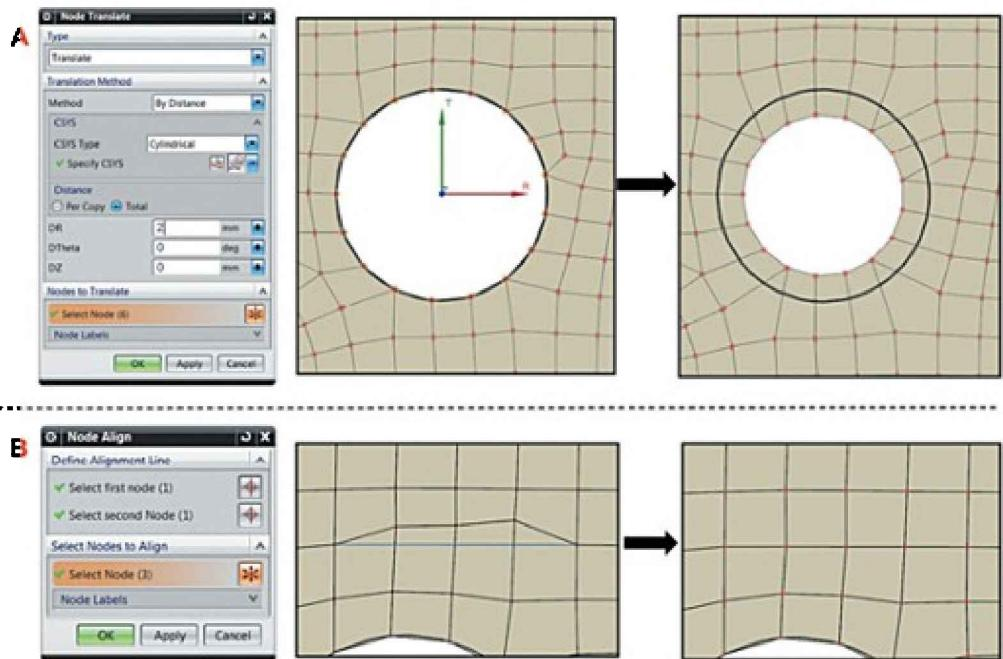

Figure 3.44. Moving nodes
- Use the ***Node Translate*** command to copy or move a set of nodes: for a specified increment in the selected coordinate system and for a directional increment. You can also use space distribution following a formula or a table. This method is typically used to create a new finite-element model based on a deformed state produced by static or dynamic analysis (Figure 3.44, A).
- Use the ***Node Align*** command to move nodes to an imaginary line defined by two other nodes (Figure 3.44, B).